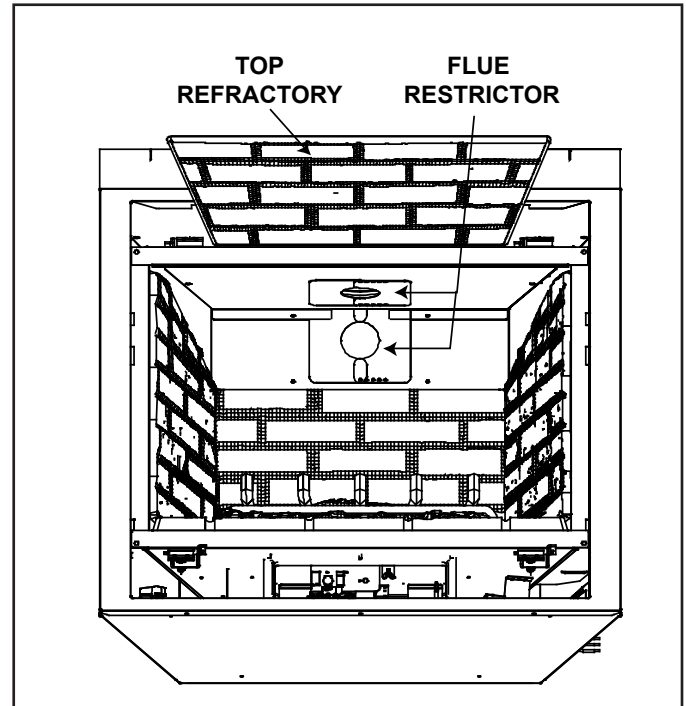

Figure 4.14
1. Remove the top piece of refractory, if already installed. See Figure 4.14.
4. Center the two flue restrictor pieces on the vent at the setting selected in step 3 and secure in place by using two self-tapping screws. See Figure 4.14.